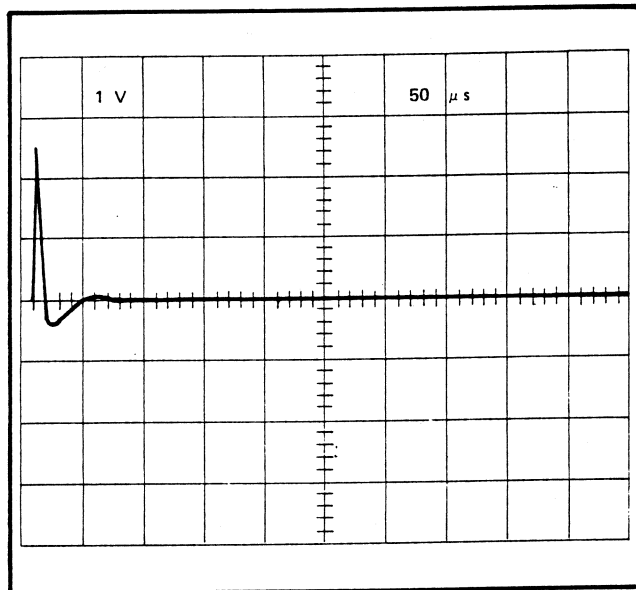

Figure 4-6. CHOPPER WAVEFORM – FINAL ADJUSTMENT
- k. Decrease the scopes time base to 50 us per division, and fine tune R34 so that the area under the spike preceding the noisy region is equal to the area under the negative overshoot as shown in Figure 4-6.